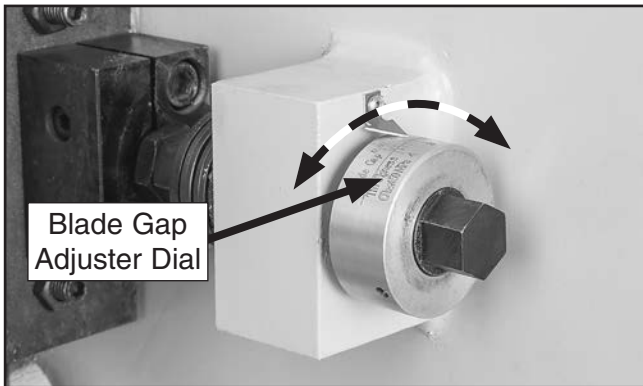

Figure 24. Location of blade gap adjuster (right).
3. Set both blade gap adjusters at 0.010" as indicated on each dial (see **Figure 24**).